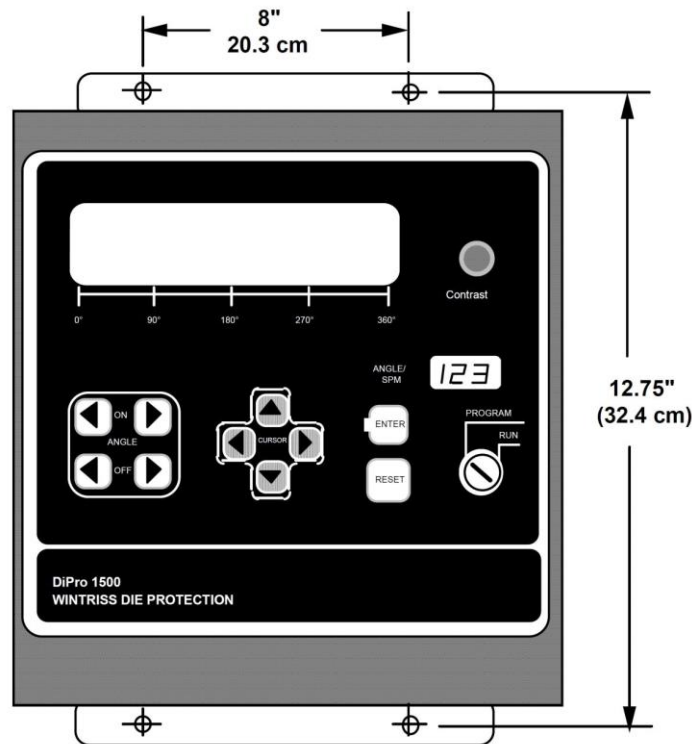

Figure 2-2. DiPro mounting dimensions (for control enclosure)
2. Drill holes for mounting (see dimensions in Figure 2-2). Shock mount studs are 1/4–20. Tap holes (if necessary) and mount the enclosure using the enclosed shock mounts. Use a No. 7 drill and 1/4–20 tap.